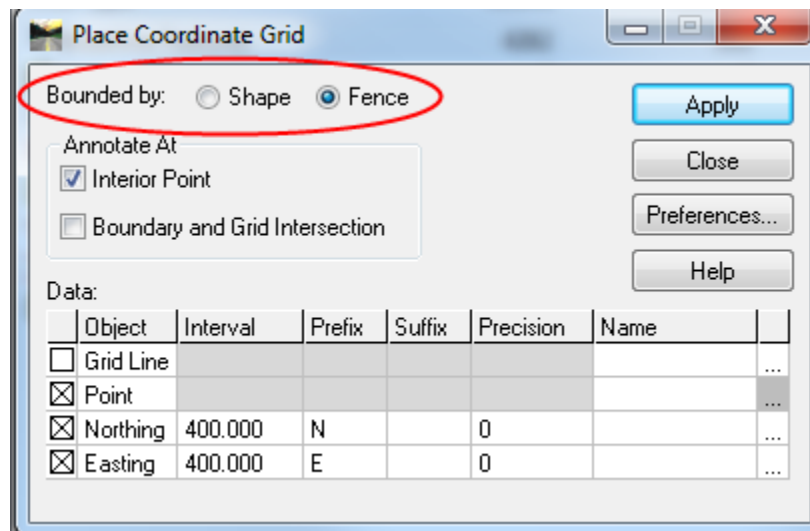

Figure 8-2 InRoads Place Grid Dialog Box
- B. Using MicroStation place a fence or a shape and toggle on the corresponding Bounded by see Figure 8-2.